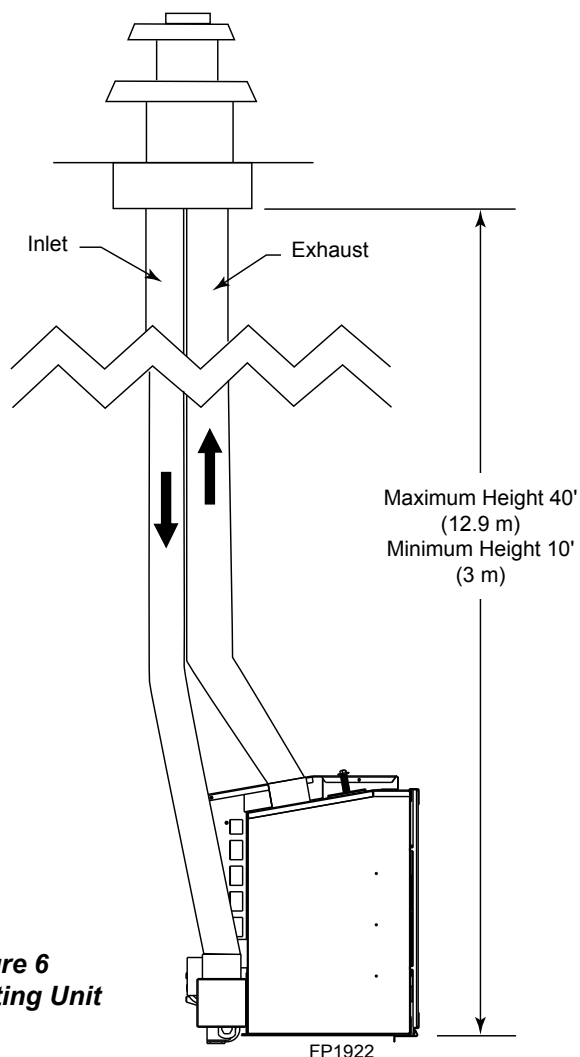

Figure 6
- Make sure the exhaust pipe on heater connects to exhaust portion of cap. Attach flex liners. Figure 6